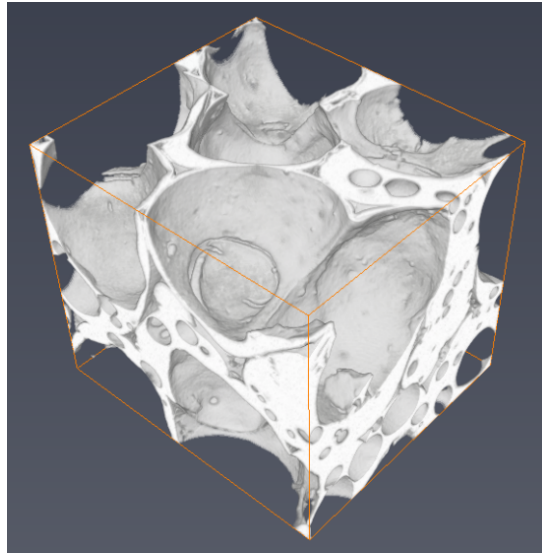

Figure 24.3: Original Data Display
1. Load the file `data/tutorials/PNM/Sponceram.am` and display it using the *Volume Rendering* module. Set the Colormap port max to `4590` to have a better rendering (see Figures 24.3 and 24.4 with colormap configured to hide the void phase).